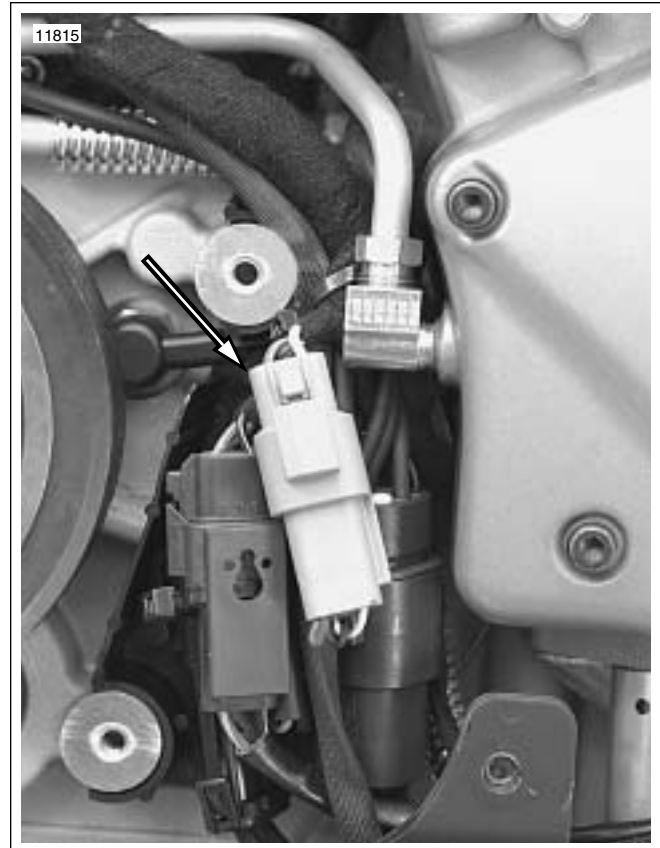

Figure 7-73. Vehicle Speed Sensor Connector [65]
1. See Figure 7-73. Locate the 3-place vehicle speed sensor connector [65] under the sprocket cover. See 2.35 SPROCKET COVER.
- See Figure 7-73. Disconnect vehicle speed sensor connector [65]. Attach speedometer tester connector to vehicle speed sensor connector.